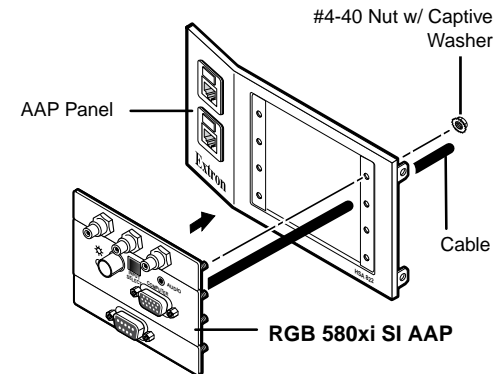

Figure 7. Mounting an AAP Device on the AAP Panel
3. Insert each of the AAP screws through the holes in the AAP opening of the HSA AAP panel. Secure each AAP to the panel with the provided captive washers and #4-40 nuts (see figure 7).